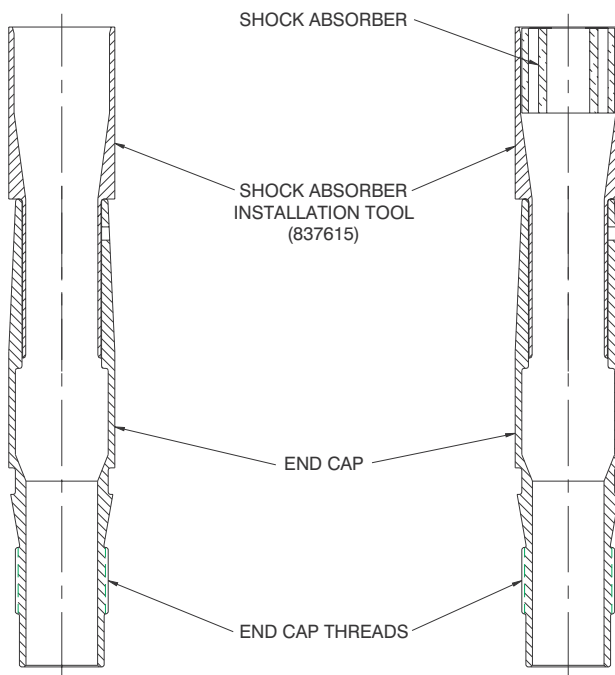

Figure 9-11. End Cap and and Tool 837615 in Press
- Tool, 837615, into the End Cap as shown in Figure 9-11-A.
2. Lubricate the OD of the Shock Absorber (15) and The I.D. of the Shock Absorber Installation Tool, 837615. Place the Shock Absorber into tool P/N 837615 as shown in Figure 9-11-B.